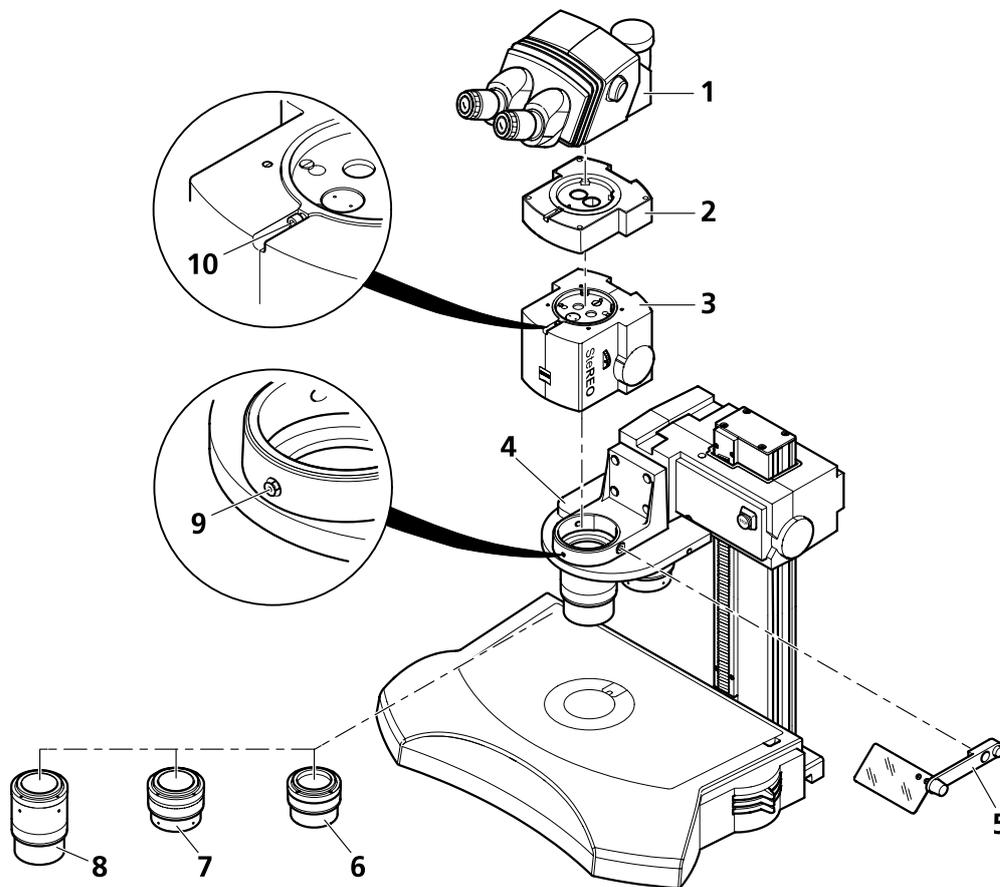

Fig. 15 Installing the microscope
- Verify that the grub screw (SW 3) on the carrier or objective nosepiece (Fig. 15/9) does not project into the opening of the holder. Turn it counterclockwise by a few turns, if necessary, using the ball-headed screwdriver (but do not fully unscrew it!).
- Put the microscope body (Fig. 15/3) into the mount (\varnothing 76 mm) of the carrier or objective nosepiece (Fig. 15/4) and align it.
- Fasten the grub screw (Fig. 15/9) on the carrier or objective nosepiece hand-tight.
Order of installation: At first, install the shortest objective (Fig. 15/6), then the medium one (Fig. 15/7) and finally the longest one (Fig. 15/8). To remove the objectives, proceed reversely.
- Take up the objective (Fig. 15/6) with both hands and screw it counterclockwise into the microscope body or objective nosepiece (upside down right-hand thread).
- Insert binocular tube (Fig. 15/1) in dovetail mount and clamp it by screwing down the Allen screw (Fig. 15/10) hand-tight using the ball-headed screwdriver.
-  You can use up to two 40 mm high intermediate tubes (Fig. 15/2) to increase the viewing height by a maximum of 80 mm. Clamp them in the same way as the binocular tube.
-  To avoid being dazzled in transmitted light, fix the dazzle protector (Fig. 15/5) to the carrier or the objective nosepiece (Fig. 15/4) and swing it in.